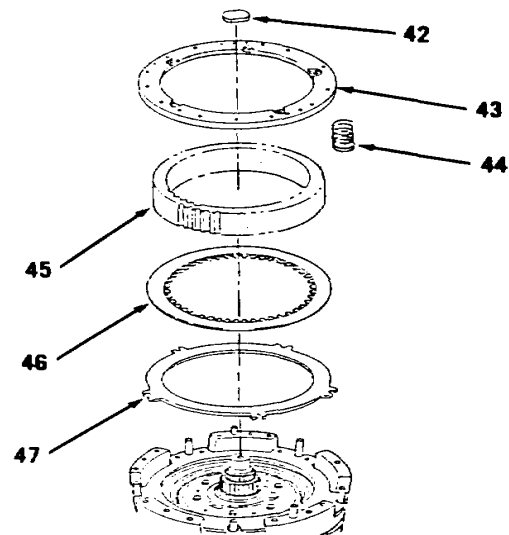
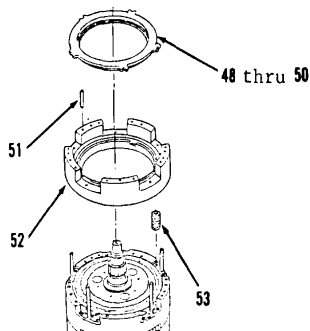
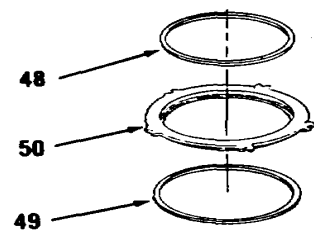

Figure 14-51.
Figure 14-52.
Figure 14-53.
22. Remove three pins (34) and plugs (40), if necessary, from shafts (35).
23. Remove five inserts (42), housing (43), ten springs (44) and gear (45, Figure 14-51).
24. Remove four discs (46) and three plates (47).
25. Remove items 48 thru 50 as an assembly (Figure 14-52).
26. Remove two dowels (51), housing (52) and ten springs (53).
27. Remove rings (48 and 49) from piston (50, Figure 14-53).